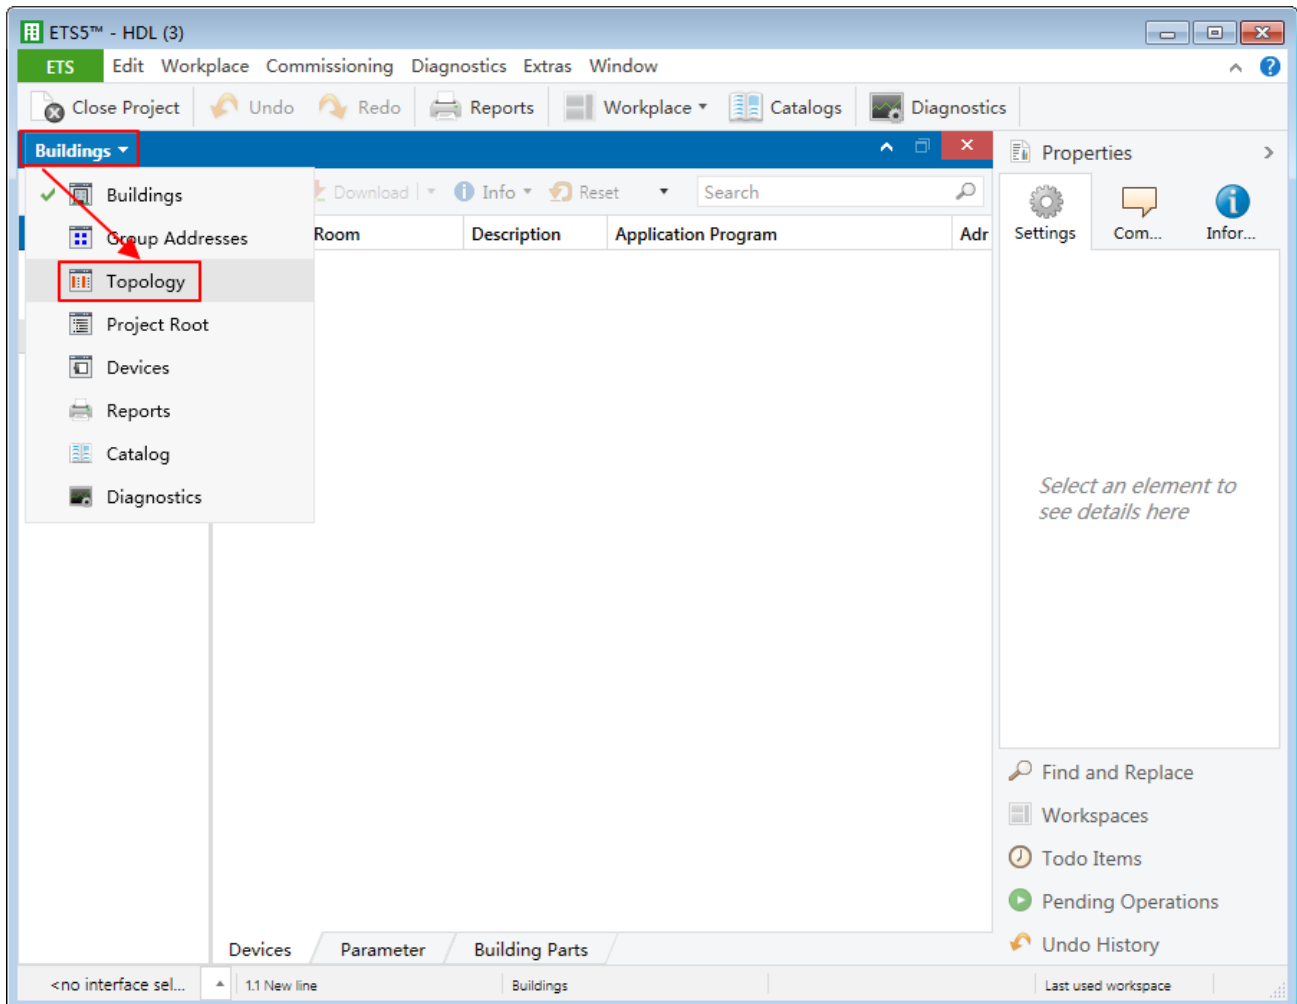

Figure 1-3 Add devices to projects (1)
- ① After creating a project, the project page will show up by default. Click “Buildings” and select “Topology”, as shown in Figure 1-3.